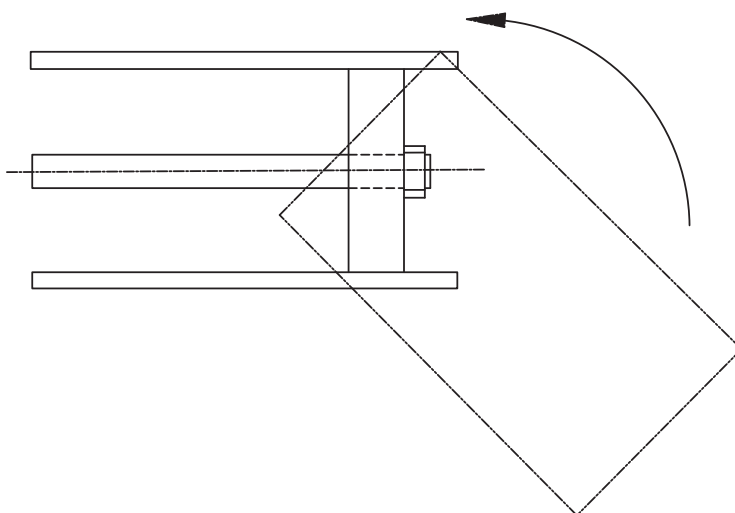

Figure 3: Assembling Cylinder
6. Carefully slide the cylinder tube (313) over the piston (310). The piston seal (311) must be well lubricated. Start the cylinder tube (313) at a 45° angle and rotate it into position onto the piston (310). See **Figure 3**.
7. Lubricate the O-ring (308) and place it on the cylinder cap (307).
8. Place the cylinder cap (307) on the cylinder tube (313) and place the washers (306) and nuts (305) on the tie-rods (304). Tighten the nuts (305) to the torque listed in Table A.